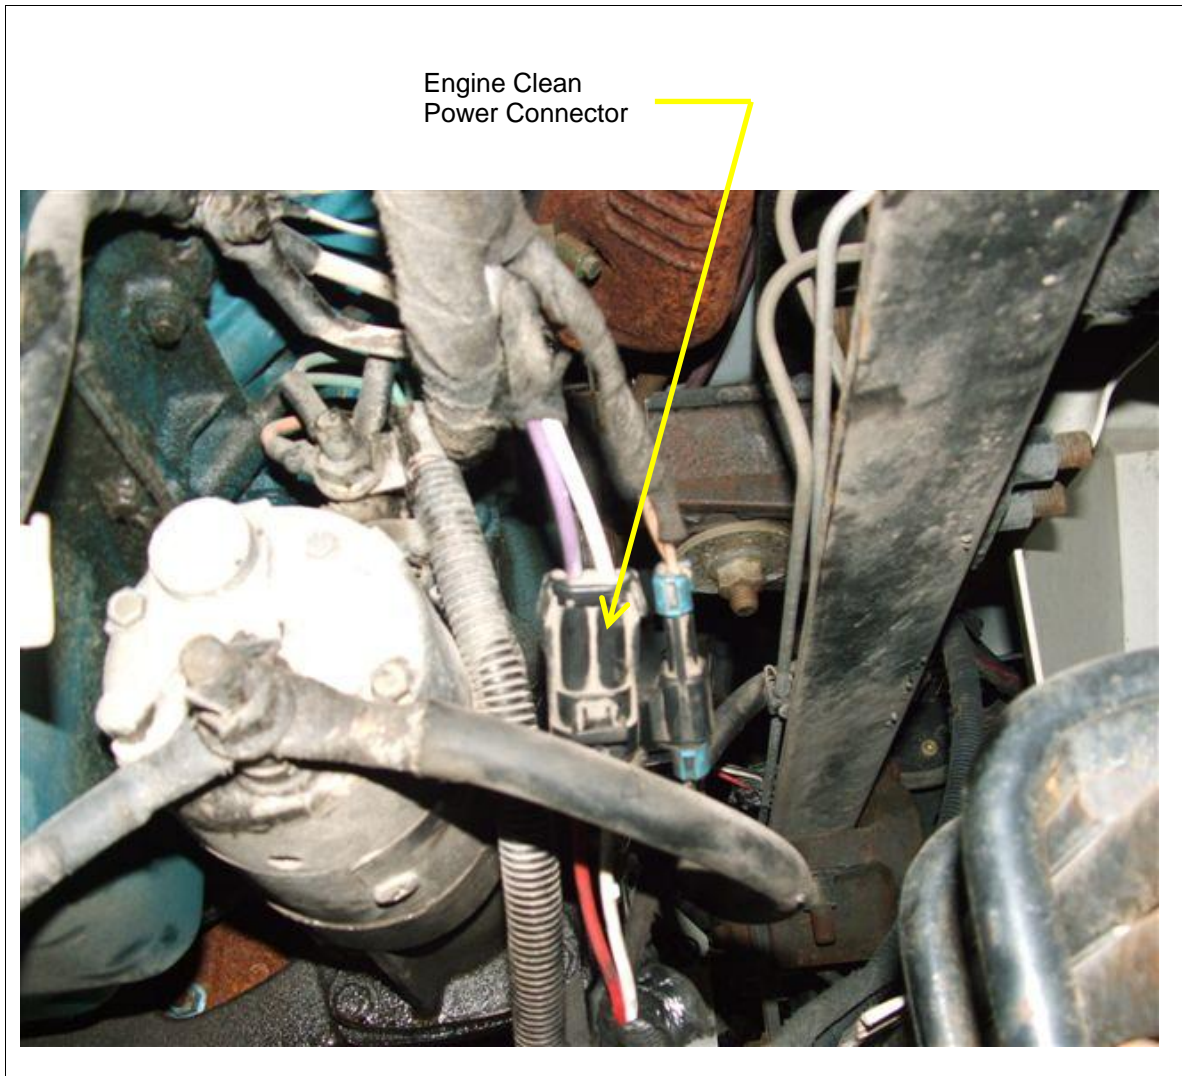

Figure 4. Engine Clean Power Connector
- See Figure 4 for assistance.